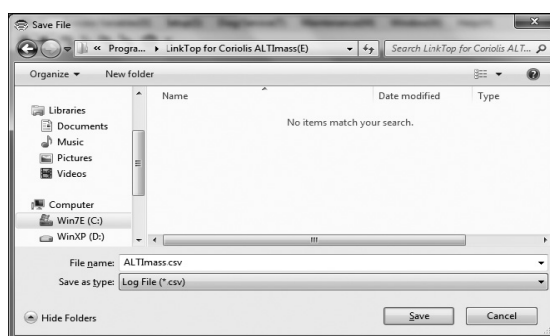

Fig.25
- ⑤ To hide the chart, click "Mass Flow" button on the tool bar or "Chart and Recording" - "Chart" - "Mass Flow" from menu again.
- ⑥ The following charts can be displayed by the same operation.
- ⑦ Clicking  on the tool bar or "Chart and Recording" - "Recording" - "Start" from menu shows a dialog box (Fig. 25). Select a disk and folder to create a file, and enter the file name, then click "Save". A CSV file is created and data logging begins.